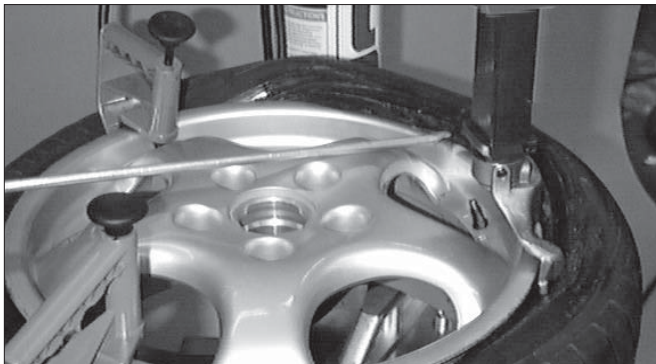

Figure 32 - Use Hooked End of Bead Lifting Tool
5. On extremely tight tire and wheel combinations, it may be necessary to use the hooked end of the bead lifting tool to flip the tire over the rim flange (Figure 32).